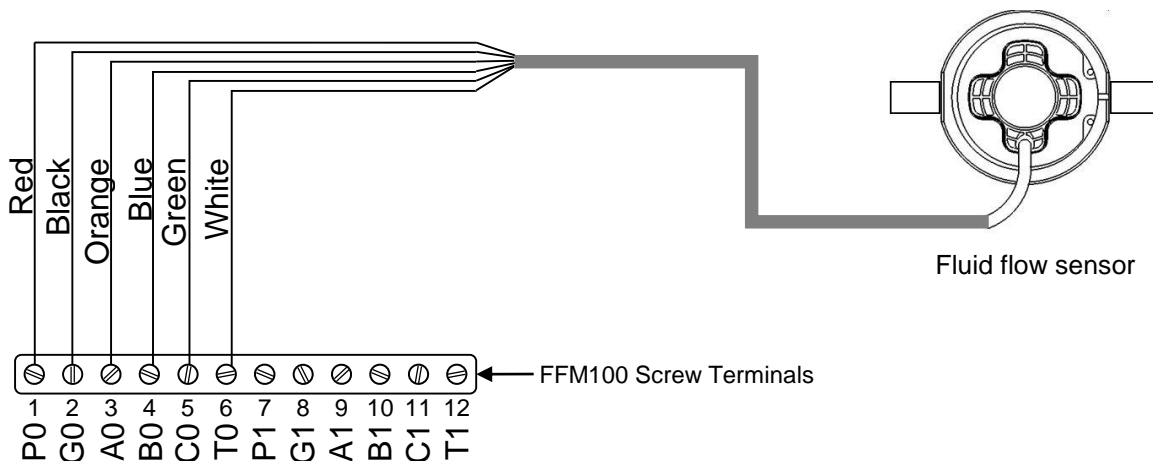

Figure 2 - Fuel Flow Sensor Connection Diagram
- Connect the six wires of the pressure transducer to a free pressure monitoring channel. Please refer to Figure 2 below for details.